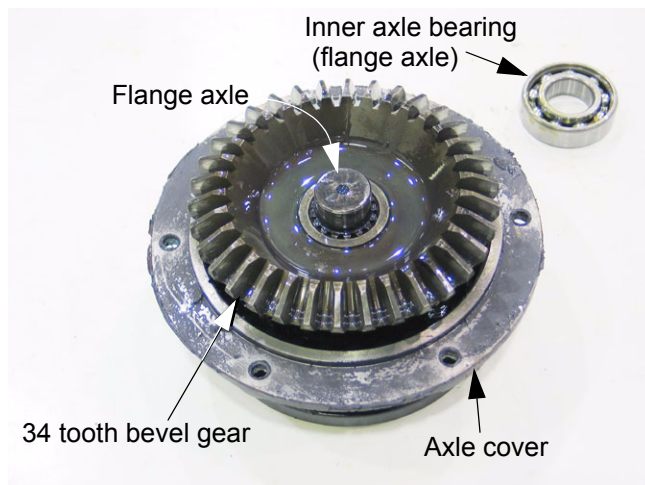

Figure 6.5
- 6.5. The inner axle bearing is a slip fit on the axle. It can be removed with light pressure on the bearing, or (preferably) by lifting the axle bevel gear. See Figure 6.5.